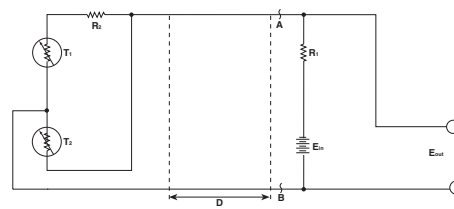

Figure 3 Voltage Mode
- For voltage mode, connect  $R_2$  to the thermistor composite. (See Figure 3.) This unit can function as the temperature sensor and be located remote from the signal conditioning circuit by up to distance "D".